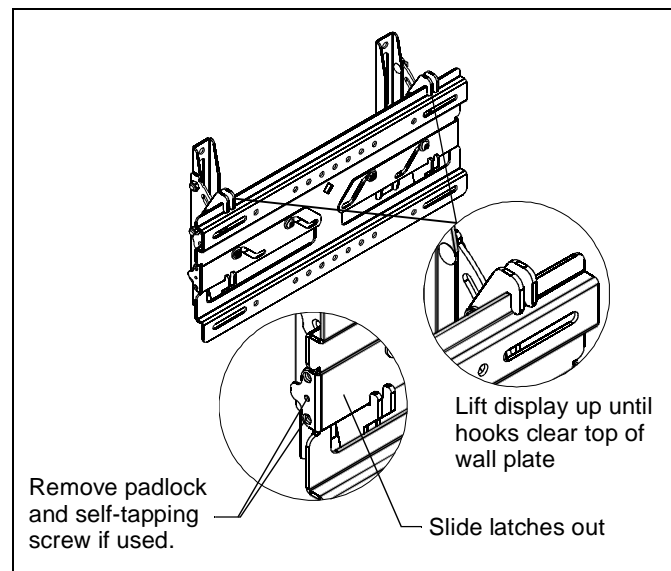

Figure 7
1. If applicable, remove the self tapping screws and/or padlocks from both sides of the wall plate. This hardware provides security. (See Figure 7)
2. Slide the security latches out on both sides to disengage the display from the wall plate. (See Figure 7)
3. With an assistant, lift the display up and off the wall plate to remove the display from the wall. (See Figure 7)